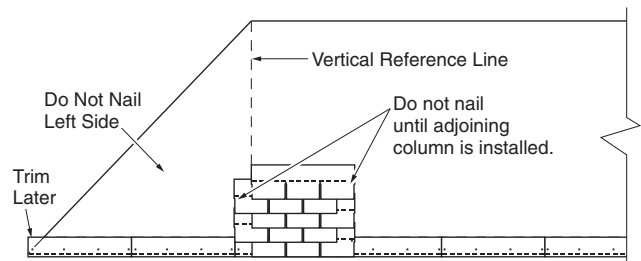

Figure 9-5: The Single-Column Rack
B. INSTALLING THE SINGLE-COLUMN RACK (Figure 9-5)
4. Install the first shingle of subsequent courses by alternating the pattern of the second and third courses. For even-numbered courses, overlap the vertical reference line by half a tab and omit the left most nail. For odd-numbered courses, position the shingle flush with the line and omit the rightmost nail (Figure 9-5).